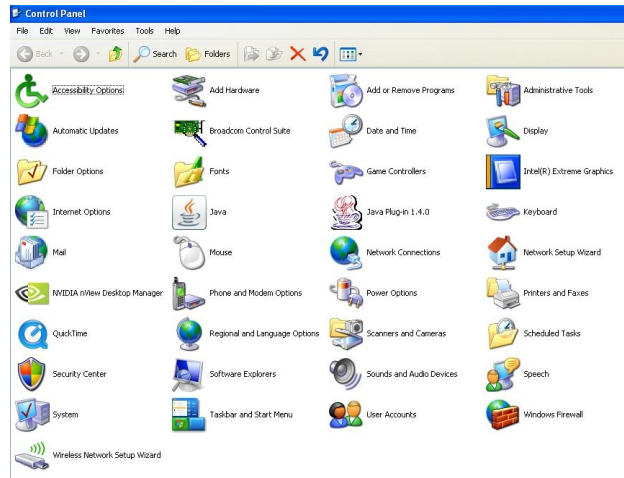

Figure 3
1. Select Control Panel from the Windows Start button. The screen should look like Figure 3 below.